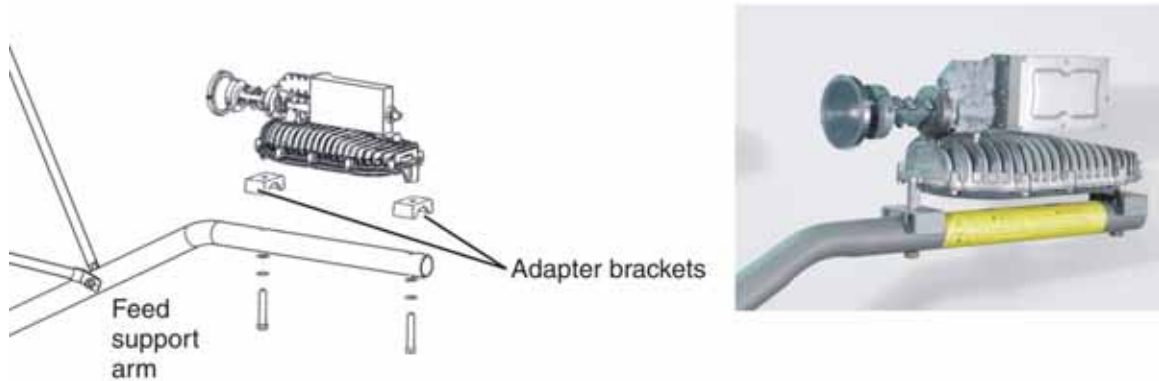

Figure 18: Attaching the radio assembly
1. Place the two adapter brackets on the feed support arm as shown in Figure 18.